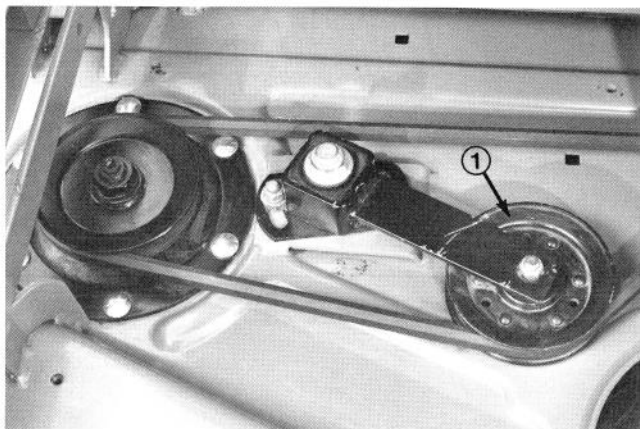

Figure 30
3. Loosen two nuts securing idler plate so tension of the idler pulley against the belt is released (Fig. 30).